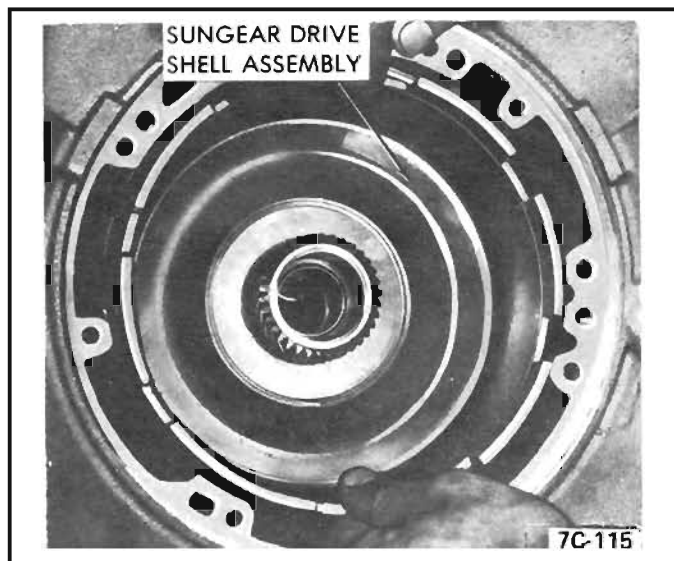

Figure 35 Drive Shell Assembly Removal
1. Remove sun gear drive shell assembly. See Figure 35.